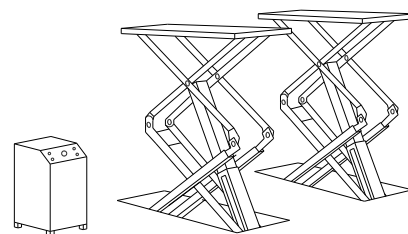

Fig.2
4. BESCHRIJVING HEFBRUG (Fig.2)